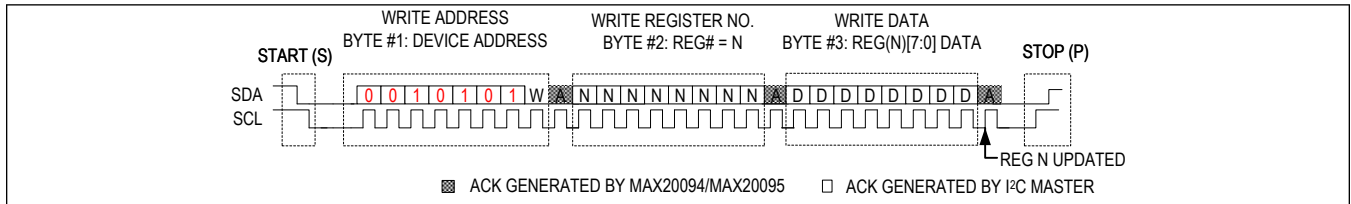

Figure 6. I²C Write Sequence
A master device communicates with the device by transmitting the proper slave address, followed by a register/command and data word(s). Each transmit sequence is framed by a START (S) or Repeated START (Sr) condition and a STOP (P) condition. Each byte is 8 bits long and is always followed by an acknowledge (ACK) clock pulse, as shown in Figure 6. The first byte contains the address of the device, with R/W = 0 to indicate a write. The second byte contains the register (or command) to be written, and the third byte contains the data to be written.